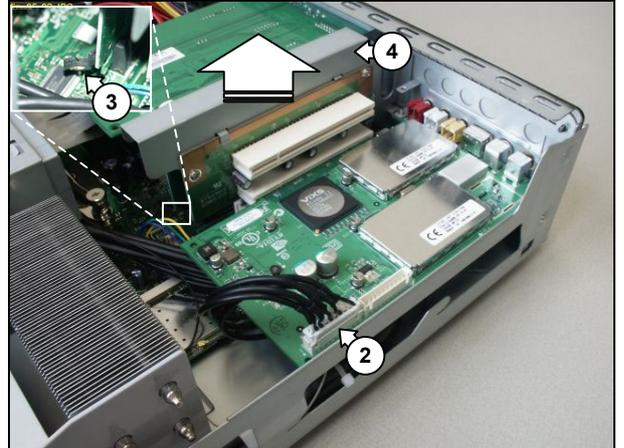

Figure 12.5-2
3. Push the locking tab arm (3) on the motherboard PCI-E connector to release the PCI-E riser card. See Figure 12.5-2.
4. Pull upwards on the riser card bracket (4) until the riser cards are free from the motherboard connectors. See Figure 12.5-2.